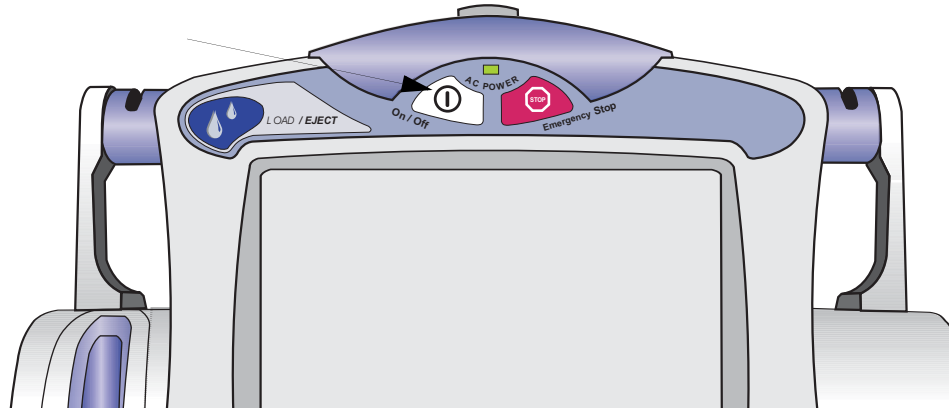

Figure 21: On/Off Button
2. Press and hold the **On/Off** button for one second, and then release. The infuser powers off. See Figure 21: "On/Off Button" on page 34.